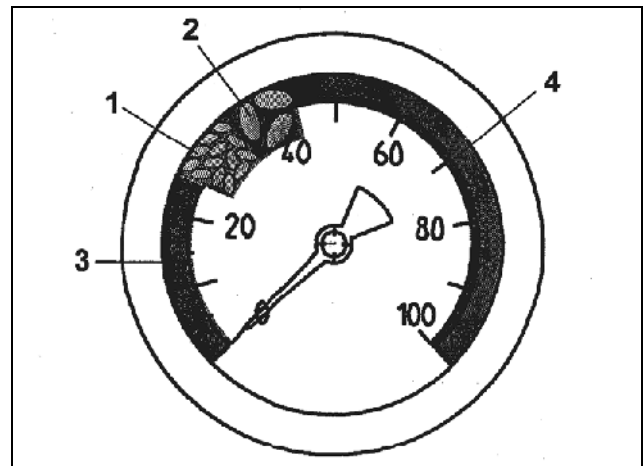

Fig. 107
- 25 and 35 mbar (Fig. 107/1) or.
- 35 and 45 (Fig. 107/2) mbar.